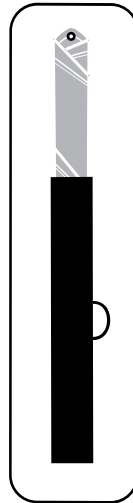

Fig. 8: Sleeve end first into bag.
- Insert your sail sleeve-end first into the sail bag (fig. 8).